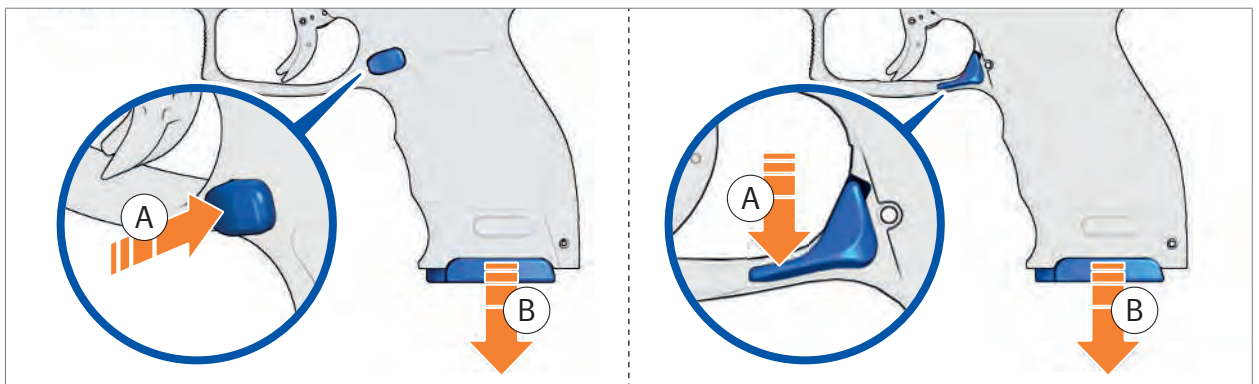

Fig. 54: Remove magazine
2. Press magazine catch (Fig. 54).
3. Remove magazine (Fig. 54).